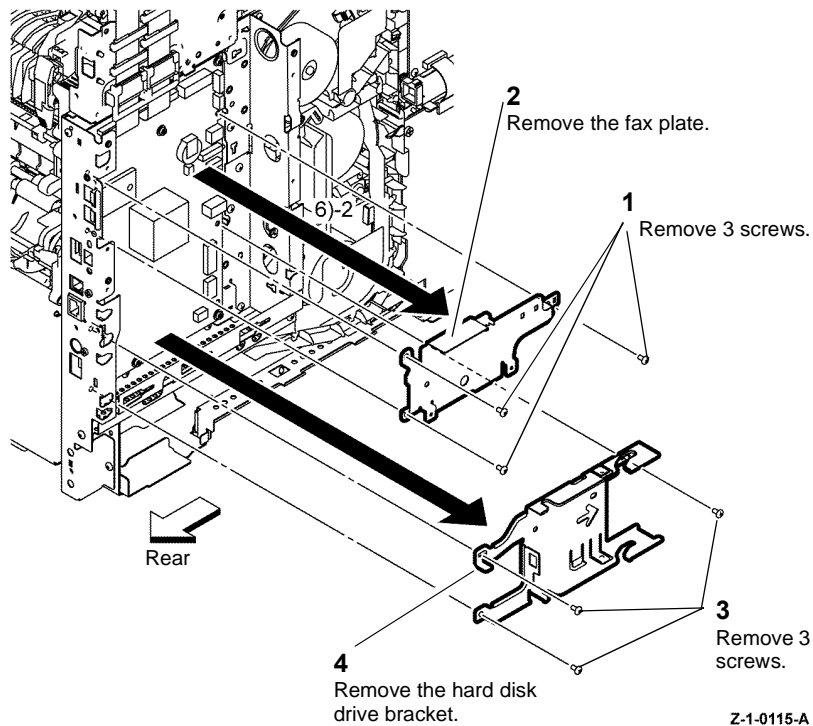

Figure 2 Fax plate and hard disk drive bracket
3. Remove the Fax plate and hard disk drive bracket, Figure 2.